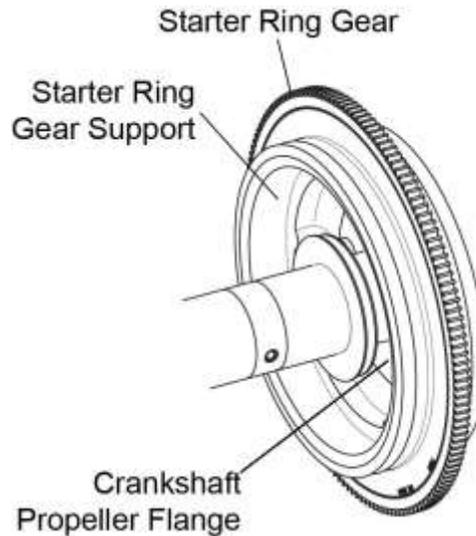
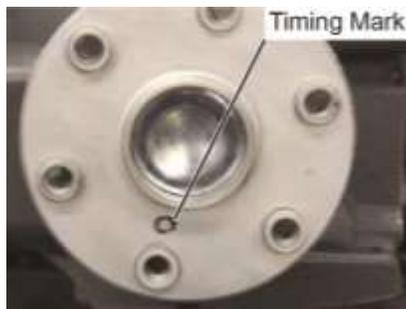

Figure 8
Figure 9
- (1) If not already done, release the tension on the alternator belt(s) and remove the alternator belt(s) per the “Alternator Belt Removal” procedure in this chapter.
- (2) Remove the starter ring gear support (Figure 8) from the crankshaft propeller flange.
- (1) Install the alternator belts in the pulley of the starter ring gear support per the “Alternator Belt Installation” procedure in this chapter.
- (2) Assemble the ring gear support (Figure 8) over the propeller flange bushings.
- (3) Locate the starter ring gear so that the "0" on the ring gear support aligns with the "0" on the crankshaft flange.
- (4) Align the mark on the crankshaft flange (Figure 9) with the mark on the starter ring gear support (Figure 10). Install the starter ring gear on the crankshaft flange.